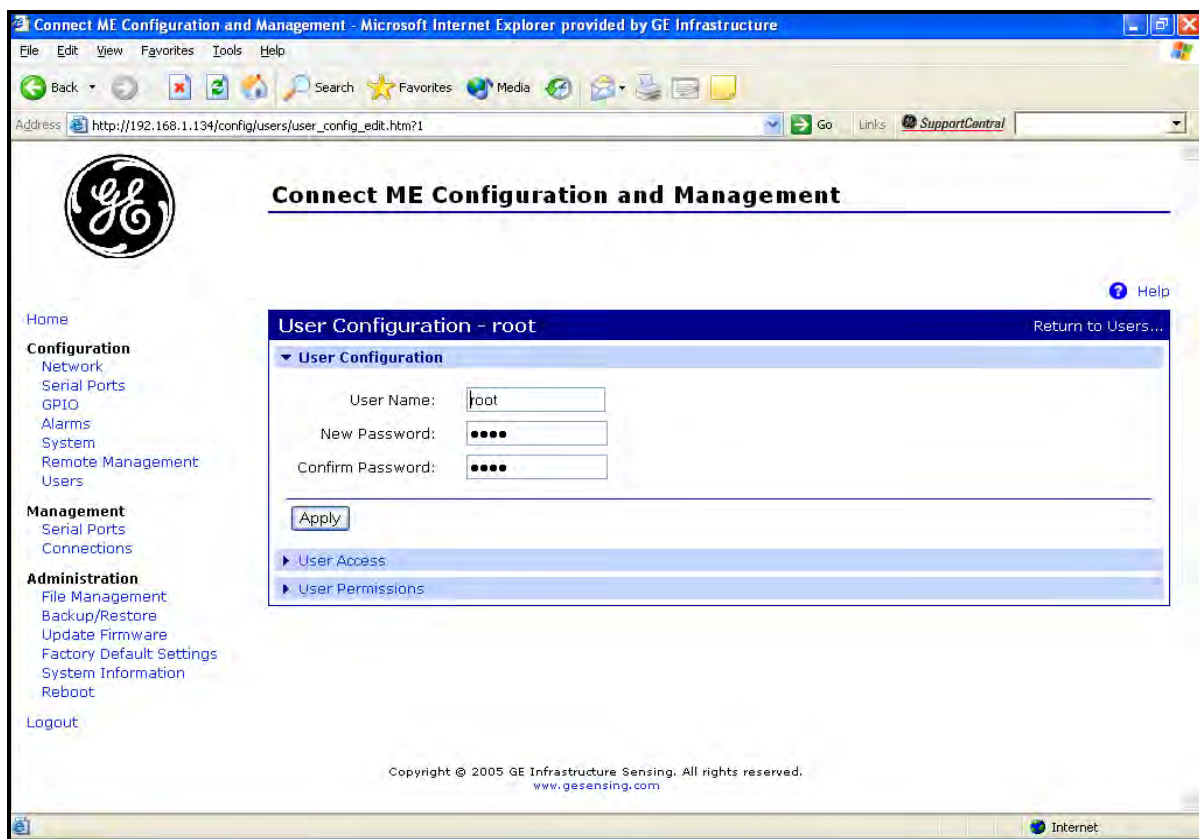

Figure 26: Changing the User Name and/or Password
5. Click on **New....** Figure 26 on page 42 appears.